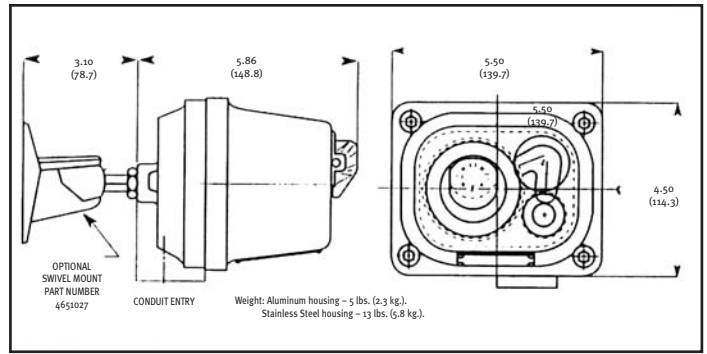

Fig 4. 660/860 mechanical specifications
- Swivel mount — 4651027 (aluminum) (shown in Figure 4)